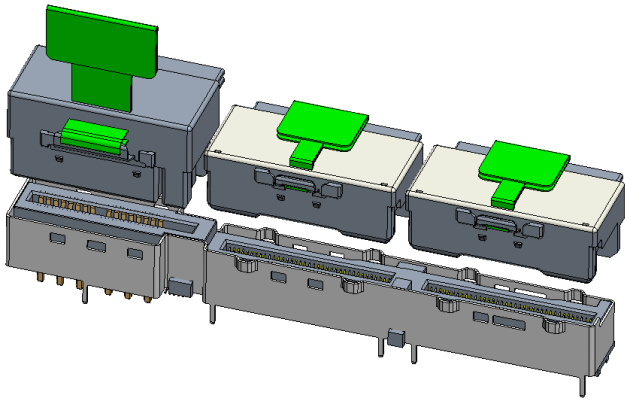
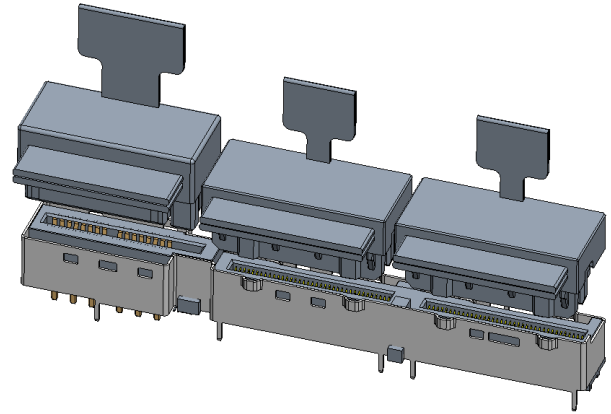

Figure 4-28 Separate RA 74 Pin Cables and a RA 55A High Power Plus Cable Application
Figure 4-29 Separate RRA Cables and a RRA 55A High Power Plus Cable Application
3. Separate individual cables to plug into the Vertical Combo DE x16+55A High Power Plus connector where there are two 74-pin cables and a 55A High Power Plus cable used as shown in Figure 4-28 or Figure 4-29. In this third case, the Straight Plug with no side flanges for 74 Contacts listed in SFF-TA-1016, the equivalent Right Angle Plug (with no side flanges), or a Reverse Right Angle Plug (with no side flanges) can mate with these receptacle connectors. The standard SFF-TA-1016 Straight Plug for 74 Contacts or the Right Angle Plug for 74 Contacts that include the side flanges will not fit. For this same reason, the SFF-TA-1016 Straight Plug for 148 Contacts or the Right Angle Plug for 148 Contacts will not fit.